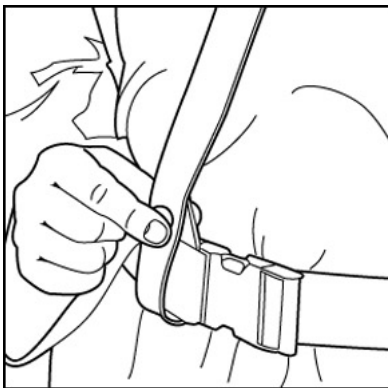

Fig. 6
11. Snap the loop end of the shoulder strap just to the right of the female end of the belt buckle. This limits the shoulder strap from sliding left past the buckle. Adjust the strap as required, tucking any extra strap under the belt keeper on the shoulder strap. (Fig. 6)